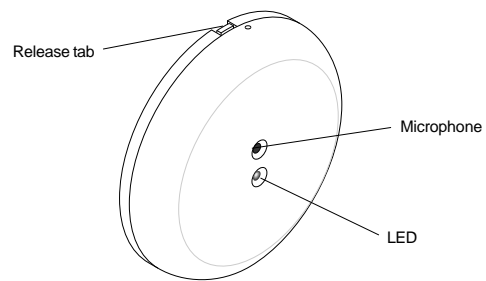

Figure 4 - Round Housing Parts
- **Round housing** Press the release tab on the lip of the base, twist the cover counter clockwise, and lift off. See Figure 4.